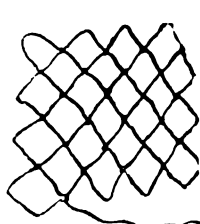

FIG. 1
**Prawn Trap or Net.**—In making a prawn net or trap to commence with small meshes in the centre and gradually increasing in size to the outside, it will be necessary to follow the instructions given in Series I., p. 186, and make a small square of netting (Fig. 1), using the smallest needle and mesh stick. Then tie the centre of this, as shown at A (Fig. 2), place the loop of A over